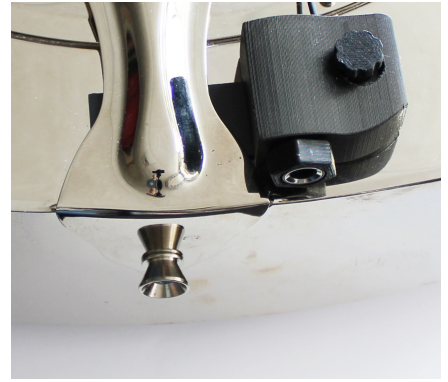

fig 4
- 5) The rectangular extension of the jack assembly inserts between the top of the instrument body and the underside of the tailpiece. Remove the backing from a piece of red backed VHB and adhere it to the underside of the rectangular area of the jack assembly fig 4.